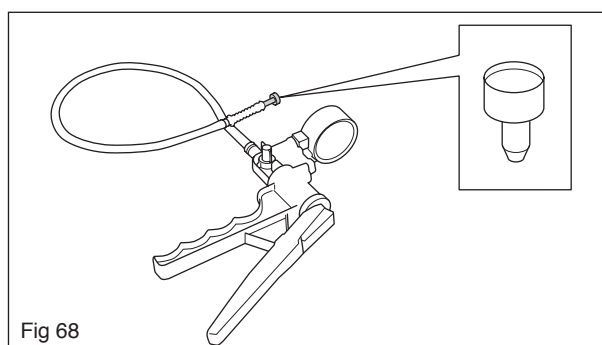

Fig 68
2. Connect the 531 03 06-23 pressure gauge to the tank valve as outlined in Figure 68.